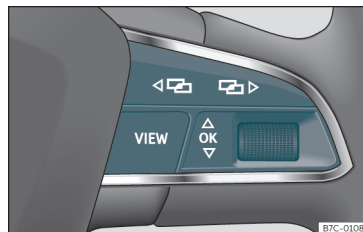

Fig. 61 Right side of the multifunction steering wheel: buttons to the menus and information displays on the instrument panel.
As long as a priority 1 >>> page 68 warning is active, it will not be possible to access any menu. Some warnings can be confirmed and hidden with the button **OK** of the multifunction steering wheel >>> **Fig. 61**.
- If a message or vehicle symbol is displayed, press the button **OK** >>> **Fig. 61**; if necessary, several times.
- To change menus, use buttons  or  >>> **Fig. 61**.
- To open the menu or the information displayed, press the button **OK** >>> **Fig. 61** or wait
- In the menu displayed, turn the right thumbwheel of the multifunction steering wheel >>> **Fig. 61** until the desired option of the menu is highlighted. The option appears framed.
- Press the button **OK** >>> **Fig. 61** to make the required modifications. A mark indicates that the system or function is activated.
Press the button **←** or **→** >>> **Fig. 61**.